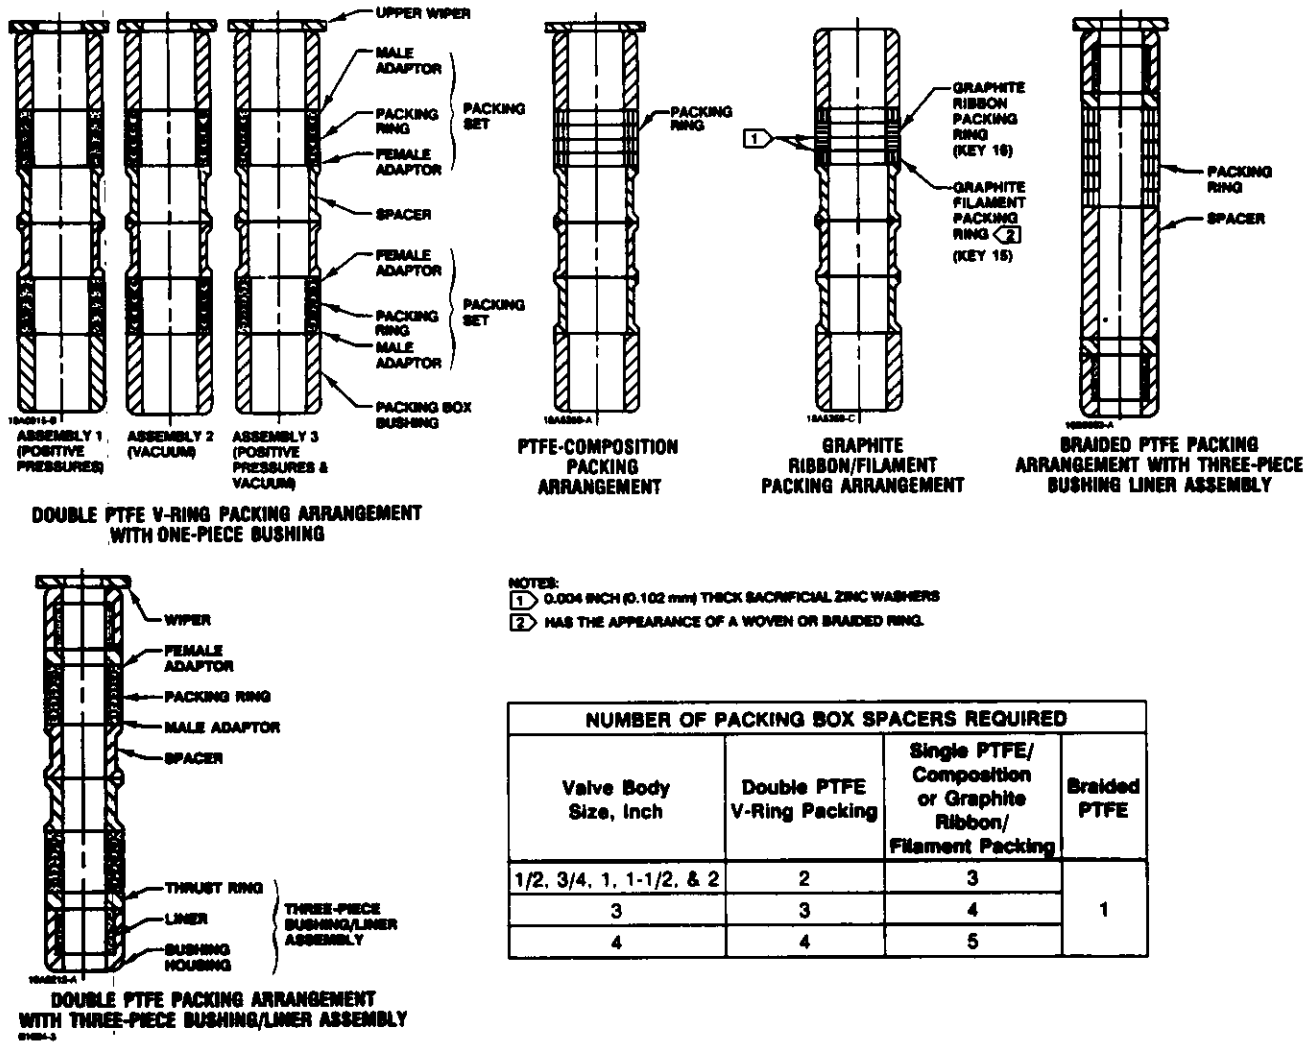

Figure 4. Packing Arrangements for Standard Bonnet
10. Install new packing and the metal packing box parts according to the appropriate arrangement in figures 4, 6, or 7. Place a smooth-edged pipe over the valve stem, and gently tap each soft packing part into the packing box, being sure that air is not trapped between adjacent soft parts.
11. Slide the bushing, wiper, and packing flange (keys 14, 18, and 19) into position. Lubricate the packing flange studs (key 20) and the faces of the packing flange nuts (key 21). Replace the packing flange nuts, but do not tighten.